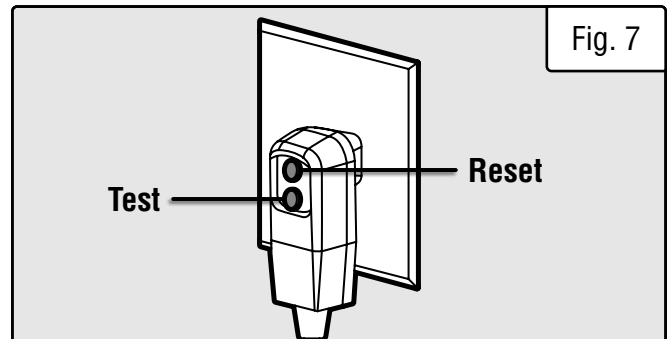

Fig. 7
2. Plug the GFCI into a matching receptacle (see p. 8 for important electrical information). We recommend that you test the GFCI as part of the startup procedure each time you use the pressure washer. Press the RESET button (Fig. 7), and the power indication light should turn ON. Press the TEST button, and the power indication light should turn OFF. DO NOT use if the test fails. Press the RESET button again after completing the test to enable operation.